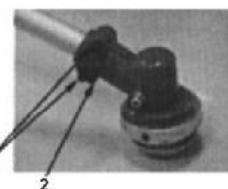

Fig.BC3
5. Fasten the pipe clamp securely with two clamp screws. See Fig.BC3